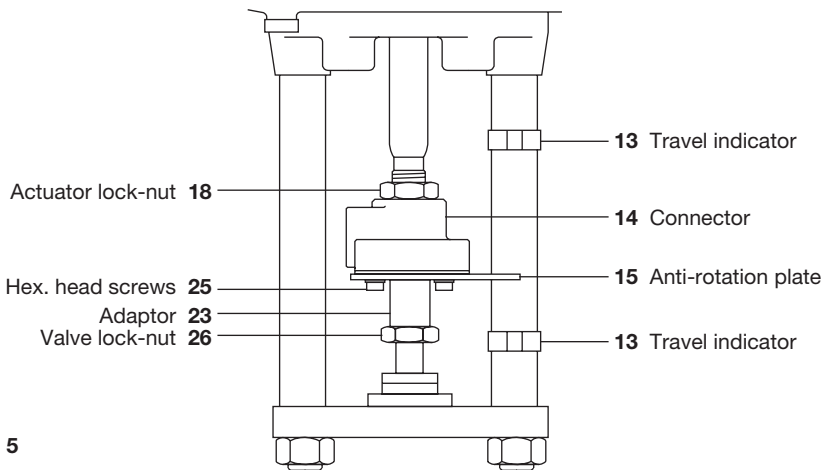
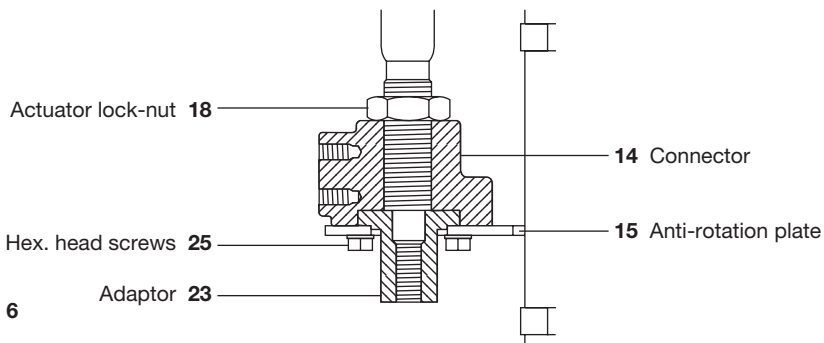

Fig. 5
Fig. 6
- Remove the 4 actuator screws and the anti-rotation plate (**15** and **25**). See Figures 5 and 6.
- Drive the actuator into approximately mid travel with an air supply. Using two spanners, loosen the two actuator lock-nuts (18 and 26) see Figure 5. Loosen and remove the 4 screws (25) to separate the two halves of the coupling.
- Allow the anti-rotation plate (15) to rest on top of the valve.
- With the valve plug on its seat screw the actuator half-coupling (14) down until it is in contact with the valve half-coupling (23). Ensure the holes for the 4 screws (25) line up.
- Refit the coupling screws (25) and anti-rotation plate (15).
- Using two spanners, tighten the two actuator lock nuts (18 and 26) see Figure 6 without allowing the valve stem or actuator shaft to turn.
- Using two spanners, tighten the two actuator lock-nuts (18 and 26) see Figure 6 without allowing the valve stem or actuator shaft to turn.
- Drive the actuator into approximately mid travel with an air supply. Using two spanners, loosen the two actuator lock-nuts (**18** and **26**) see Figure 5.